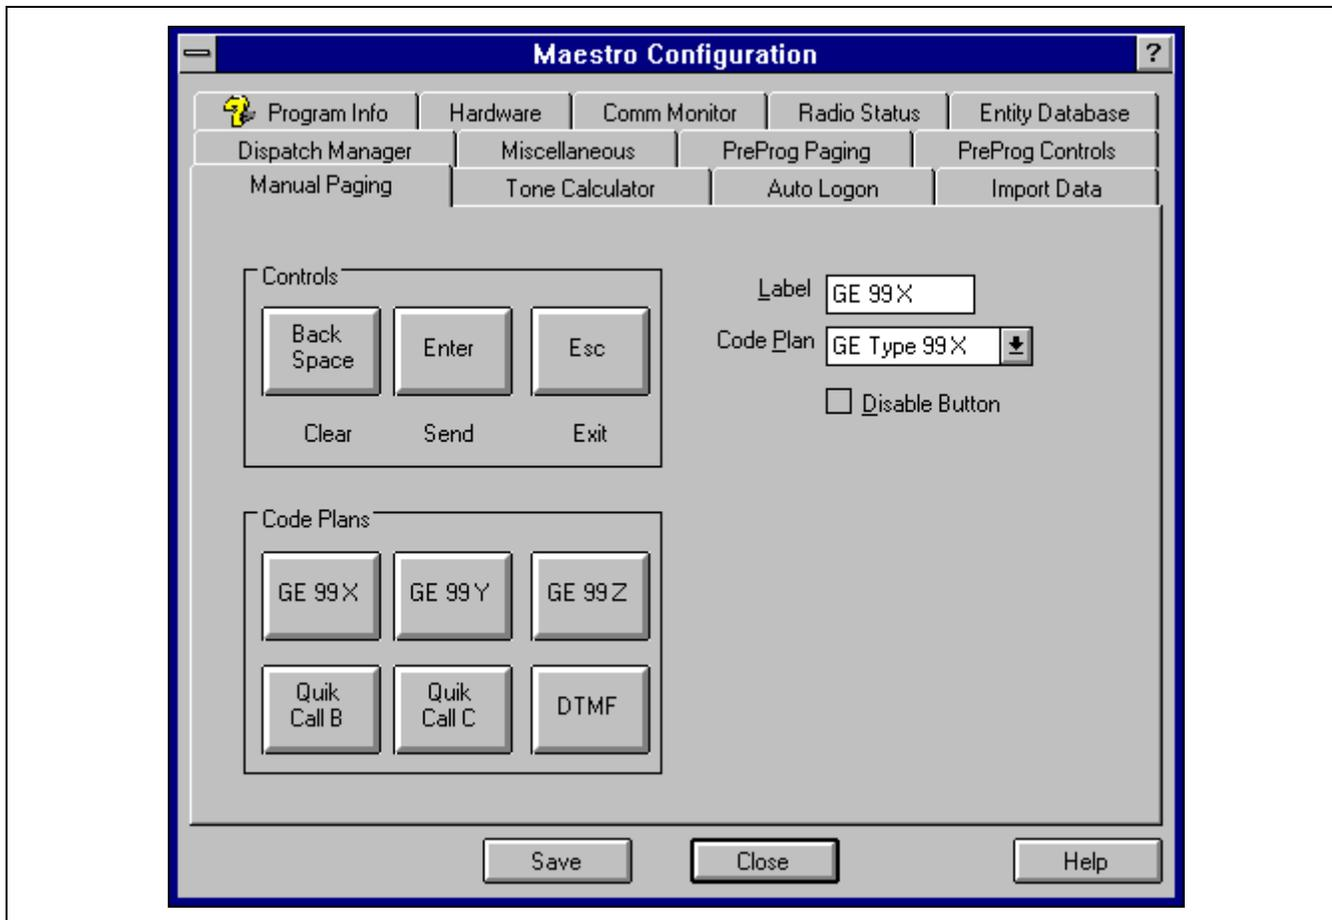

Figure 6-11 — Configuration Editor's Manual Paging Buttons Dialog Box (With Typical Button Definitions)
1. From the Manual Paging dialog box (see Figure 6-11), click the desired control button.
Within the console application, the six (6) code plan buttons on the Manual Paging (numeric entry) dialog box provide code plan selection before a page is started. Normally, as shown in Figure 6-11, each button is configured with a different code plan. Edit the code plan button properties as follows:
1. From the Manual Paging dialog box (see Figure 6-11), click the desired code plan button.